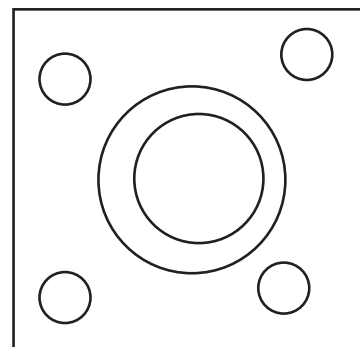

Fig. 27-15
- The sketch of a shaft support shown in Fig. 27-15 is not to scale; however the following description applies. The base is 2" square and  $\frac{1}{4}$ " thick. The boss (lipped area) is in the center of the base and has an outer diameter of 0.5", a thickness of  $\frac{1}{4}$ ", and a through hole with a .35" radius. The four corner holes are each .15" in diameter and their center lines are offset from the horizontal and vertical sides by .35". Draw and dimension two views of the shaft support.